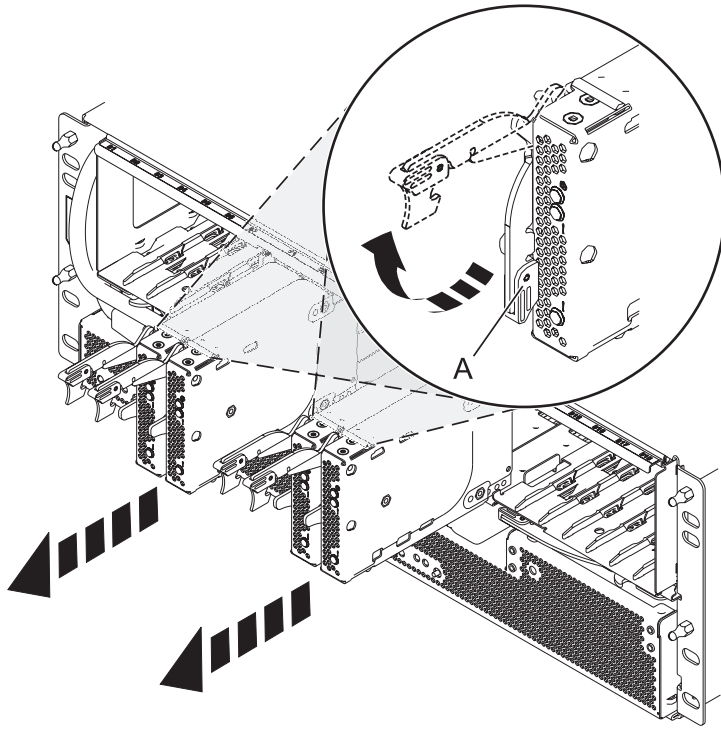

Figure 93. Removing the port card from the backplane
5. Remove the port cards and fillers as shown in Figure 93 on page 122.